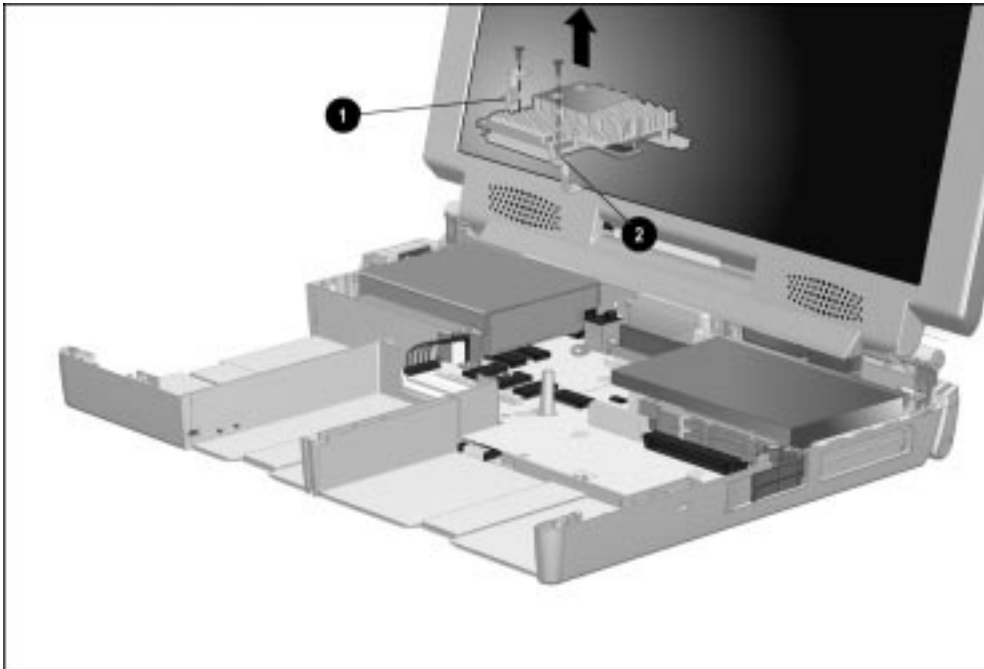

Figure 5-46. Processor Module Assembly Ground Clip Locations and Alignment
When replacing the processor module assembly, remove the two ground clips ① and ② that are attached to the assembly and retain them for use with the new processor module assembly (Figure 5-46).